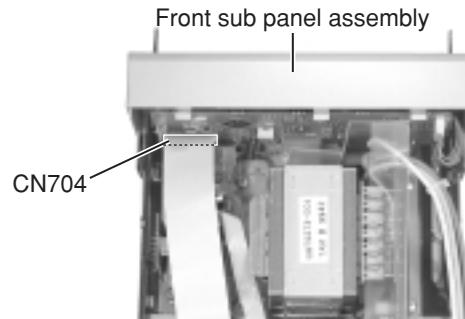

Fig. 6
■ Removing the front sub panel assembly (See Fig.6 to 8)